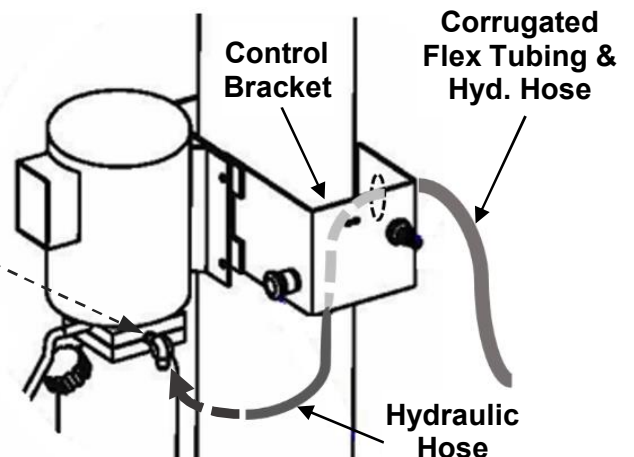

Fig. 26
- 5) Remove Jam Nut from end of Corrugated Flex Tubing and route Hydraulic Hose through the large hole on backside of Control Bracket. Insert the Flex Tubing end through hole on backside of Control Bracket and secure to it with Jam Nut, Fig 26.
- 6) Route Hydraulic Hose extending from Flex Tubing under the Control Bracket & up to the angled back 90 degree Power Unit Fitting to connect, Fig 26. Ensure not to over-tighten JIC Fitting connections.